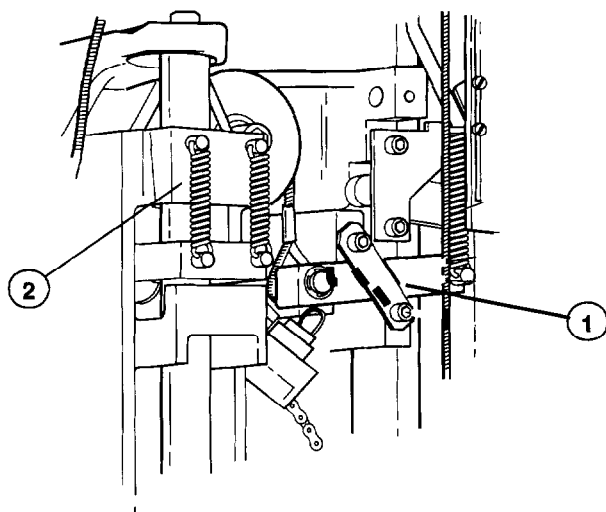

Fig. 1
- Do the safety catch (1/Fig. 1) and rotation safety catch (2/Fig.1) show any visible damage? Are the springs in good condition?